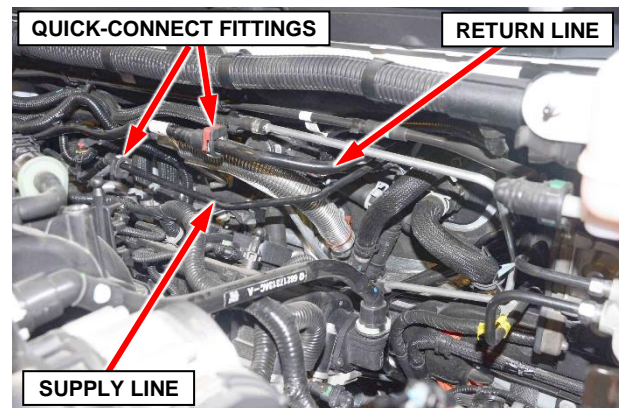

Figure 60 – Fuel Lines
87. Disconnect the quick-connect fitting for the fuel supply line and fuel return line in the engine compartment (Figure 60).